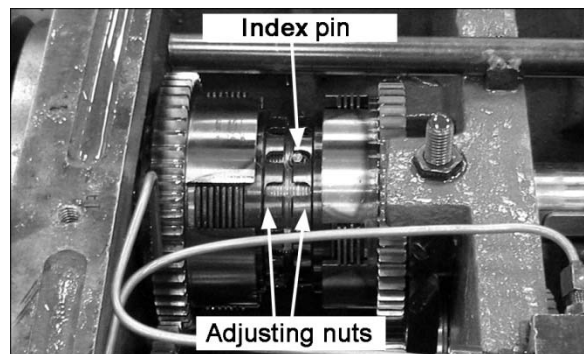

Figure 42 – Spindle Clutch Adjustment
4. Use a screwdriver to push in the index pin (Figures 42 and 43). The pin is spring loaded.